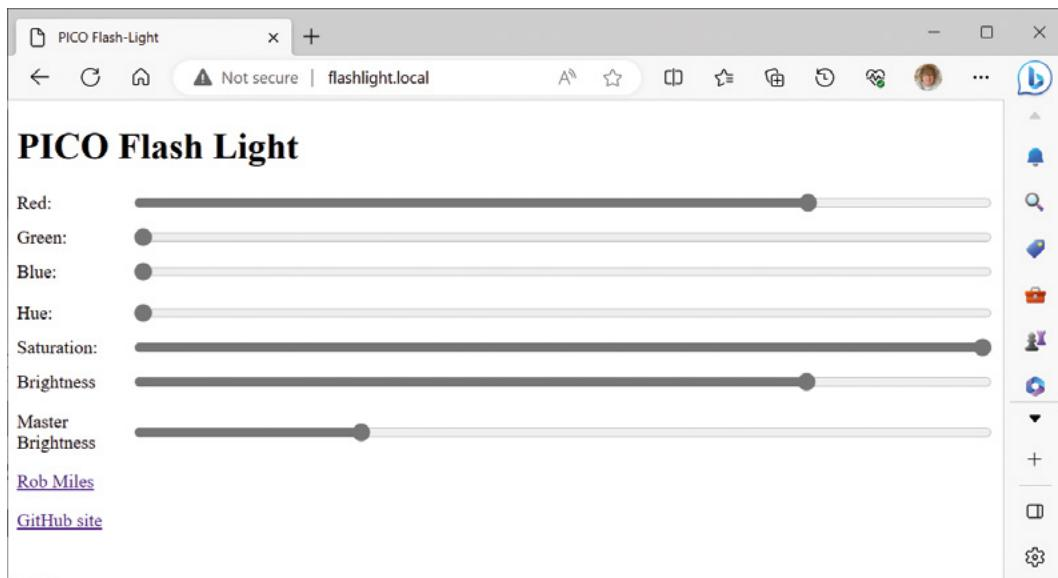

Figure 2 ◇
Figure 2 shows the web page that is hosted by Pico W fitted inside the light. You can set the colour of the light by using the sliders to adjust red, green, and blue intensity or hue, saturation, and brightness. The master brightness slider controls the overall brightness of the light. The Pico W runs an HTTP server which serves out the web page. The latter contains JavaScript code to read the slider values and send web requests back to the Pico W. The web requests contain the required colour and brightness settings. Let's look at how this works. The overall sequence of operation is as follows:
1. The light is switched on. A CircuitPython program starts running in the Pico W. The program connects to the local Wi-Fi, and then starts a web server hosting the web page you can see in Figure 2.
The web page in **Figure 2** shows how the colour of the lights is controlled. We now know how this page is served by the Pico in the light. Next, we need to discover how the code in the web page works. This code runs inside the browser and is written in JavaScript (the language of the web). When the browser loads the web page from the Pico, it calls a function called `startReader` to start the value reader. The first thing the function does is set up the address of the server so it knows where to send web